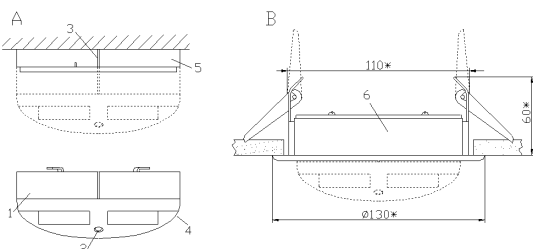

Figure 2.
There are two options for mounting the detectors (see Figure 2). To attach the detector to solid surface (Variant A) the detector base plate provided is used. Suspended Ceiling Mounting Kit MK-2 (Variant B) provides installing the detector into a suspended ceiling.
To install the detector on the base plate, align the guide on the detector with the short guide of the base plate. Then turn the detector clockwise until the detector guide is aligned with guide 3 as shown in Figure 2 (A).